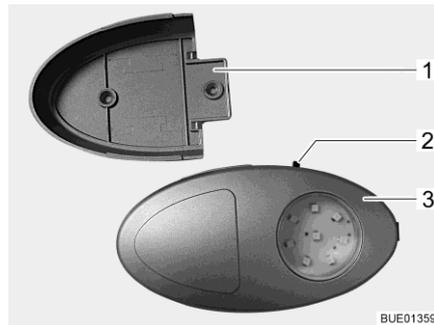

Fig. 104 Wardrobe light/torch
- ▷ The wardrobe light can be removed from its holder (Fig. 104,1) and used as a torch.
The On/Off switch (Fig. 104,2) is located directly on the wardrobe light (Fig. 104,3).